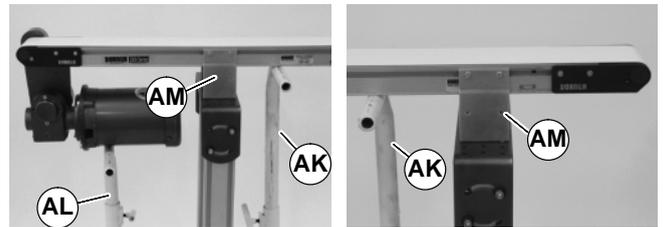
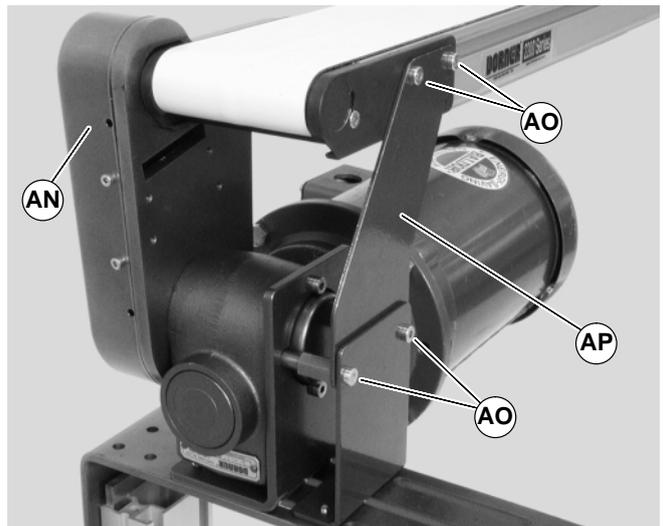

Figure 19
Figure 20
1. Place temporary support stands (AK of Figure 19) at both ends of the conveyor. Place an additional support stand under the drive motor (AL), if equipped. See **WARNING**.
2. Remove mounting brackets (AM of Figure 19) from one side of conveyor. (Reverse steps 3 & 4 of “Mounting Brackets” section on page 6.) If equipped with heavy load drive package, remove brackets from side opposite drive cover (AN of Figure 20).
4. If equipped, remove return rollers, guiding and accessories from side opposite drive cover (AN of Figure 20).
5. If equipped with heavy load drive package, remove drive support bracket (AP of Figure 20): Remove bracket screws (AO) then remove bracket (AP).
- Ensure temporary support stands (AK of Figure 19) are placed at both ends of the conveyor. Place an additional support stand under the drive motor (AL), if equipped. See **WARNING**.
- If equipped with a heavy load drive package, re-install drive support bracket (AP of Figure 20).